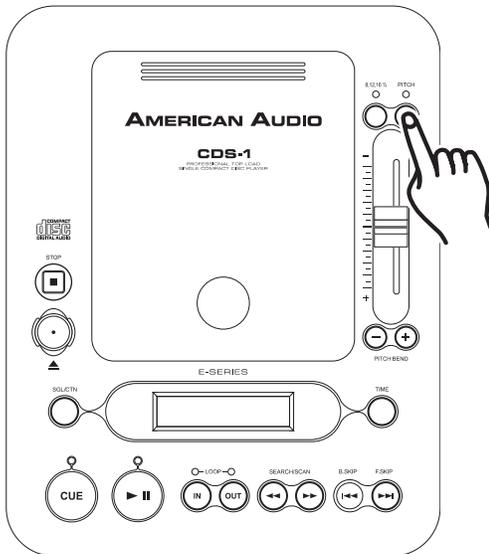

Figure 12
Adjusting the Pitch Slider's Range (19): You may change the *PITCH SLIDER'S (19)* operating range. To change the operating range be sure the pitch function is turned on, see figure 12 on the previous page. The pitch percentage can be changed between +/-8%, +/-12%, and +/-16%. +/-8% will allow the least amount of pitch manipulation and +/-16% will allow the most amount of pitch manipulation. To adjust to the different values tap the *P.S. BUTTON (23)*. The *Pitch Select LED (23)* will indicated the current pitch level. Flashing red for +/-8%, off +/-12%, or glowing solid red for +/-16%. Note, the pitch function must be activated for a LED reading.